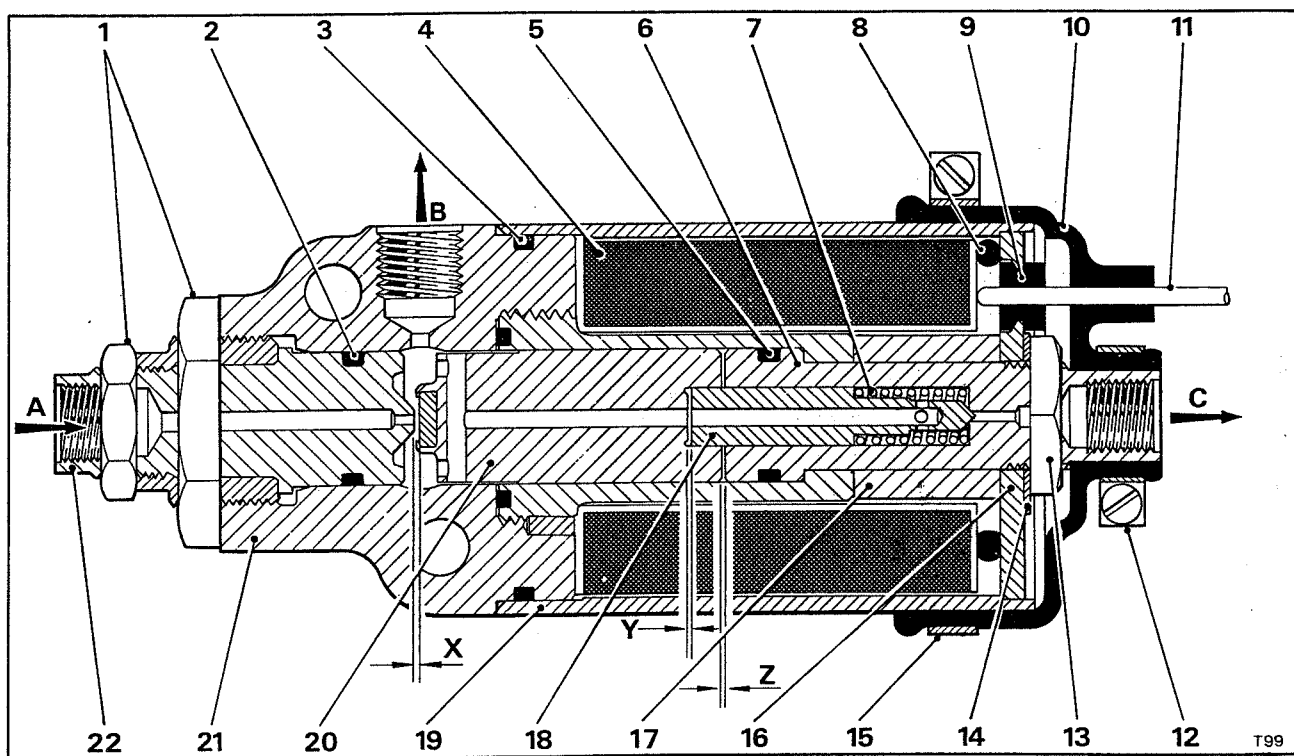

Fig. G21 Height control solenoid valve
Solenoid valve - To assemble (refer to Figs. G21 and G22)
4. Assemble the bobbin, cone valve and cone valve body without the return spring. Selectively fit shims to point Y shown in Figure G21 until a gap of between 0,20 mm. and 0,28 mm. (0.008 in. and 0.011 in.) is obtained at point Z with the cone valve fully seated. Carefully remove the cone valve body and fit the cone valve return spring prior to fitting the assembly into the main body bore.